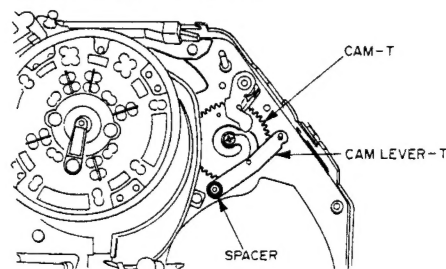

Fig. 3-33
7. Reassemble in the reverse order for installation. When reinstalling the CAPSTAN MOTOR, confirm that the CAM LEVER-T and SPACER are in the correct position as shown in Fig. 3-33.